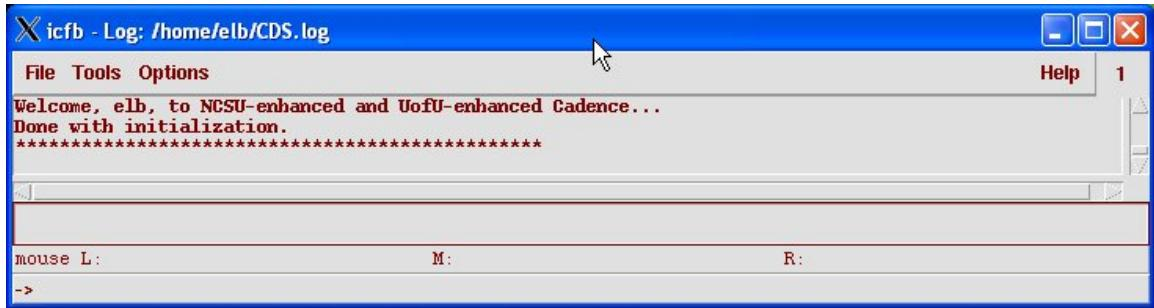
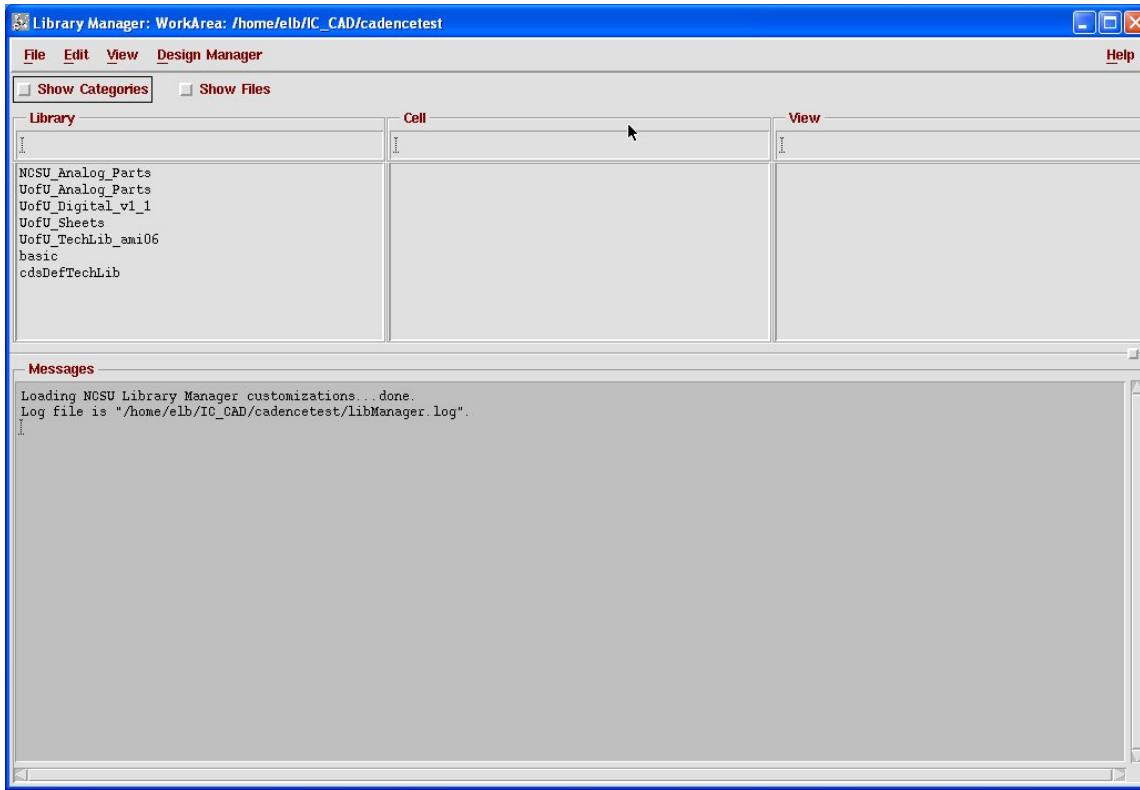

Figure 2.1: Command Interperter Window (CIW) for `cad-ncsu`
Figure 2.2: Library Manager window in `cad-ncsu`
You should see two windows once things get started up. The first is the **Command Interpreter Window** or CIW. It's shown in Figure 2.1. The other is the **Library Manager** shown in Figure 2.2. The CIW is the main command interface for all the dfll tools. In practice you will probably not type commands into this window. Instead you'll use interfaces in each of the tools themselves. However, because most of the tools put their diagnostic log information into the CIW, you will refer back to it often. Also, there are some things that just have to be done from this window. For now, just make sure that your CIW looks something like the one in Figure 2.1.
1. Start up Cadence dfII by running the command `cad-ncsu`, as described in Chapter 2. You may have used (and may still be using) a different setup for a different class, but please use `cad-ncsu` for this class. You should get a window (called the **Command Information Window** or CIW) similar to the one shown in Figure 2.1.
2. You should also get another window for the **Library Manager** as shown in Figure 2.2. The libraries that you'll see in the default **Library Manager** window are described in Chapter 2.